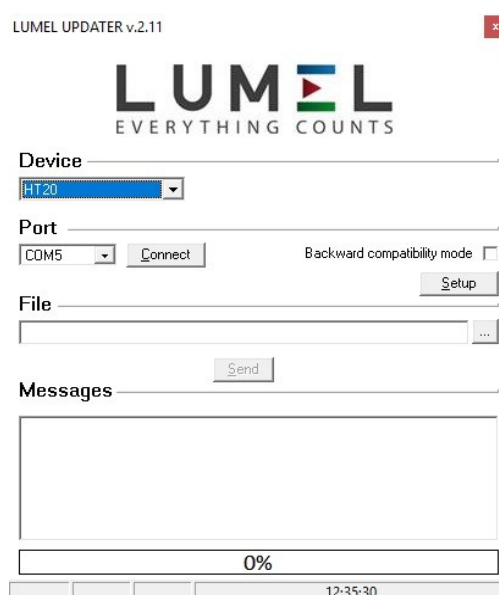

Fig. 30. View of the program to upgrade the firmware.
After starting the eCon program the speed, mode, the recorder IP address and RS-485 port must be set in the **Communication** tab. Then click the **Connect** icon. Then click the link **Upgrade firmware** which will display the window of LUMEL UPDATER (LU) – **fig. 30**. Then, while pressing the button „...” load the file with the new version of the software in LUMEL UPDATER. Click the **Connect** button **Messages** information window contains info about the progress of the upgrade process. When the port is properly opened the display shows: **Port opened**. Switching to the upgrade mode is performed remotely via LU (based on the settings in eCon or the website - address, mode, speed, COM port) - upgrade according to the recommended communication parameters, i.e. speed 115200 kb/s, 8N2 mode. If the recorder establishes communication with LUMEL UPDATER the following message is displayed in LU program **Device found: HT25** and the version of the main program and the bootloader of the connected device, and the recorder display will show the message "Device is ready." When the file is properly opened, LU program displays information **File opened**. Press the **Send** button. During upgrade, the percentage update progress is displayed on the bottom row of the display. After successful upgrade the recorder switches to normal operation, and the information window shows **Done** and the upgrade duration.
Website is used to configure the archiving parameters. Archiving can be continuous and conditional. Triggering conditional archiving may be performed according to one of the four possibilities shown in **fig. 30** (n-on, n-off, off, on). Continuous archiving is activated by selecting h-on archiving type, and it is turned off by selecting the h-off option.